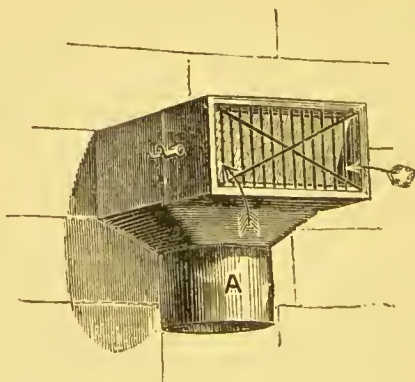
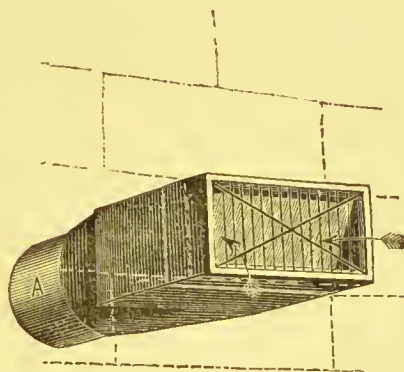

FIG. 116.—View of "Mica-valve"—Vertical.
FIG. 117.—View of “Mica-valve”—Horizontal.
Fig. 116 shows a *perspective view* of a “mica-valve” for fixing on the top of a *vertical* induct-pipe, and Fig. 117 shows a view of one for fixing on the end of a *horizontal* air induct-pipe. They are made in various sizes, to fit pipes from 2 in. to  $4\frac{1}{2}$  in. diameter.
- F.—*Foot ventilation.*—This is an air induct-pipe for the admission of fresh air into foot of the soil-pipe, with a mica-valve over its mouth to prevent any vitiated air coming out at this point.—See Fig. 116, p. 262.